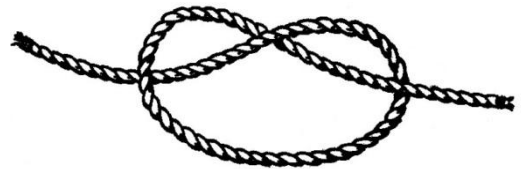

FIG. 3. THUMB KNOT.
3.3 Thumb Knot. A thumb knot (see Fig. 3) is used at the end of a rope, as a temporary measure to prevent unstranding and fraying, or as a stopper to prevent the rope running through the sheave of a block when the load is unhitched.
4.1 Whipping. Ends of ropes should always be finished off in some way to prevent the strands unlaying and fraying out. According to the purpose for which a rope is used depends to some extent on the method adopted to permanently secure the end of the rope to prevent it from unstranding or fraying. Where it is necessary to keep the rope to the same diameter, such as through the pulley block then the end of the rope is secured by a whipping. In other cases, a back splice is made but, for a temporary purpose a thumb knot (See Fig. 3) may be used.